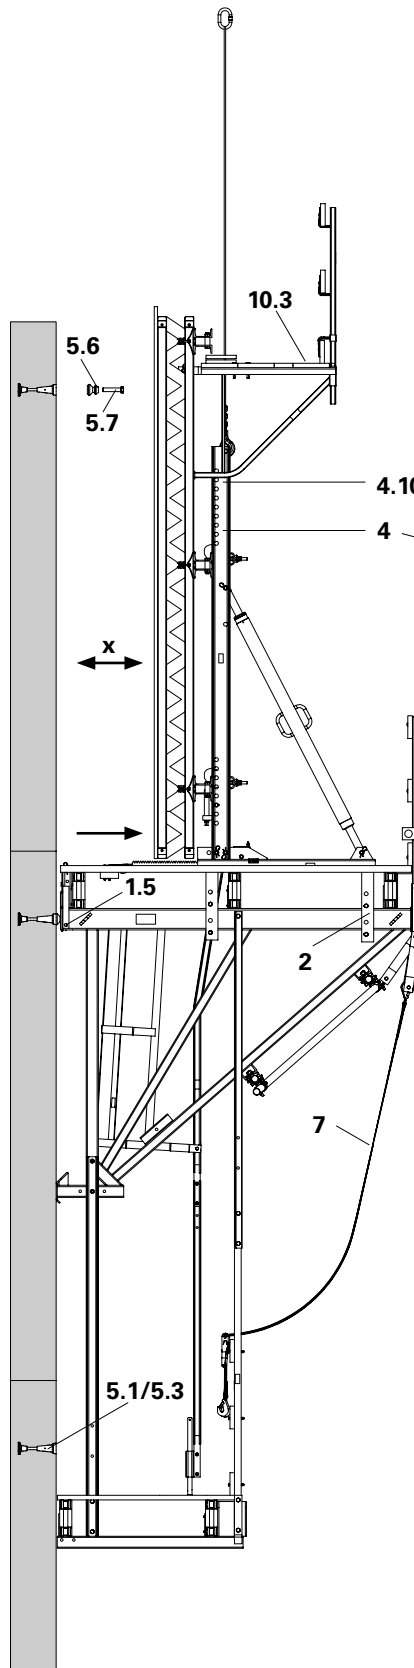

Fig. B4.01
8. Open concreting platform decking (10.3) above the Strongback. Attach climbing unit to Strongback (4). (Fig. B4.01)